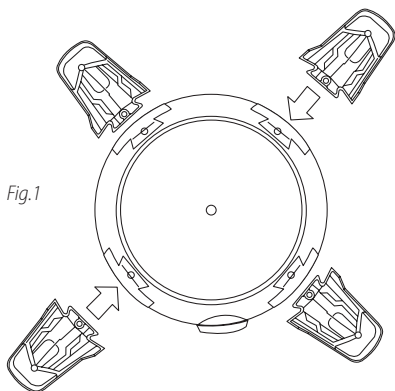

Fig. 1
2. Take caster feet **4** and place into slots on tank. **Fig. 1**.